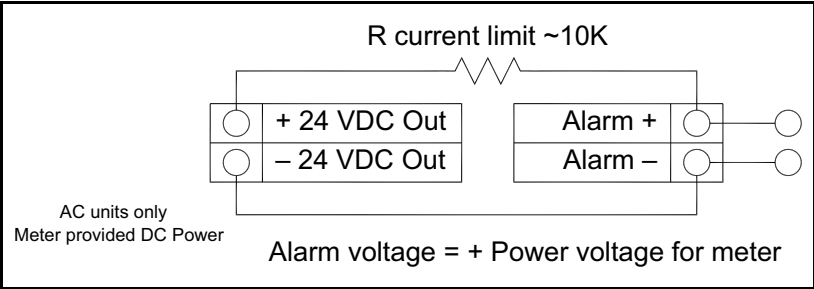

Figure 43: Isolated Alarm Output Using Meter Provided Power Supply
- For AC powered meters only, use the internal 24 VDC power supply (see *Figure 43 on page 45*). Use this option if the voltage of the alarm output is the same as the voltage supplied to the circuit.